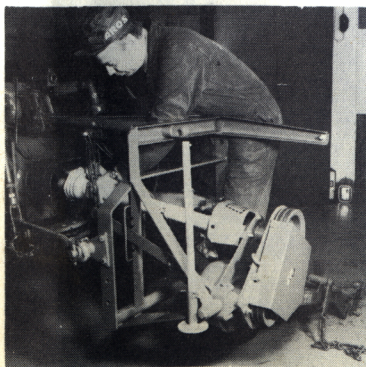

Fig. 11
- Turn the mower body at right angles to the longitudinal direction of the tractor and press the power transmission shaft on to the power take-off shaft, see Fig. 11.